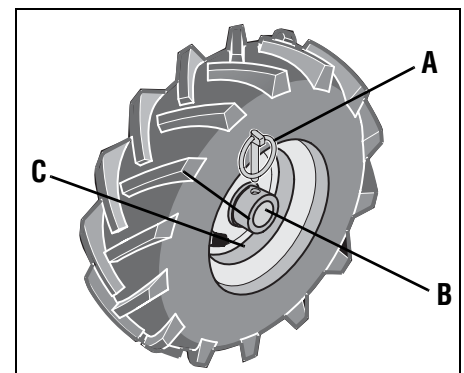

Figure 3-2: WHEEL DRIVE position.
Each wheel is equipped with a wheel drive Klik pin (A, Figures 3-2 and 3-3) that secures the wheel to the wheel shaft (B). The wheels can be positioned in either a WHEEL DRIVE or a FREEWHEEL mode.
3. Remove Klick Pin (A, Figures 3-2 and 3-3) from wheel drive shaft (B).
4. **FOR WHEEL DRIVE MODE** (Figure 3-2): Slide wheel outward and align holes in
wheel hub (D, Figure 3-2) and wheel shaft (B). Insert Klick pin (A) through wheel hub (C) and wheel shaft (B). Repeat with the other wheel and then remove the support from beneath the transmission.